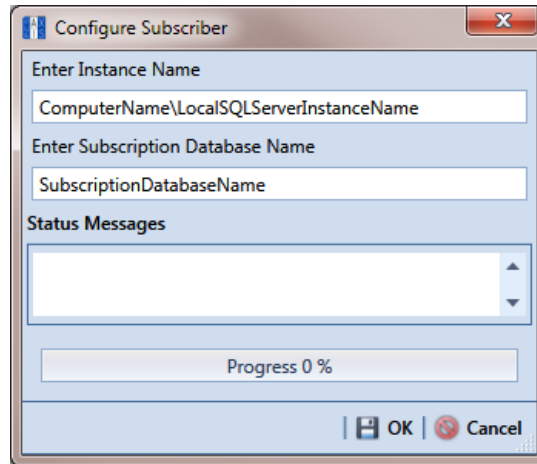

Figure 17-6. Configure Subscriber
- 2 Click **Tools > Configure Subscription** to open the *Configure Subscriber* dialog box (Figure 17-6, page 784).